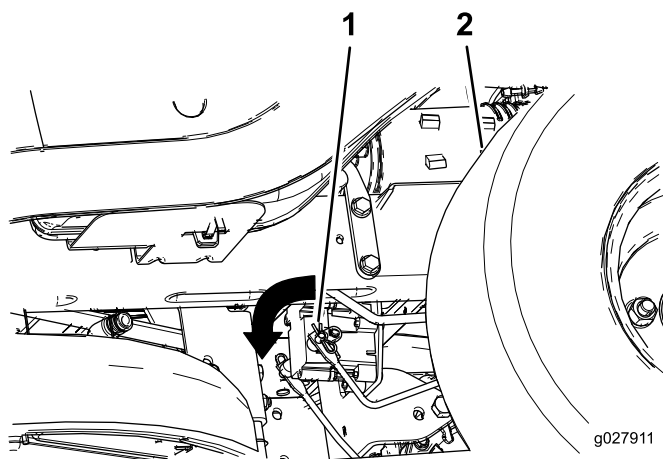

Figure 41
2. Locate the shafts where the brake-link arms are connected on both sides of the electric brake (Figure 41).